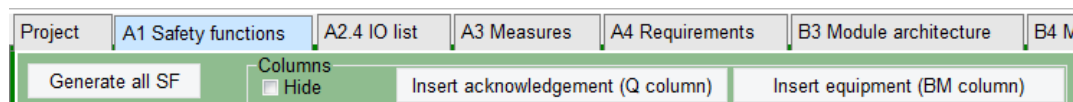

Figure 27: Insert Q and BM columns via button
In the "A1 Safety functions" tab, it is necessary to be able to add separate columns for acknowledgement devices (Q) and operating equipment (BM). The Table 13 lists the commands in the INSERT COLUMN context menu that are available for this purpose. However, it is also possible to simply insert the Q and B columns using the "Insert Q column" and "Insert E column" buttons in the tab control (see Figure 27). When inserting Q and EL columns, the two header cells are prefilled with the texts "[Name]" and "[BMK]" (equipment identification). These texts must then be replaced by your own texts. To do this, activate the EDIT control in the "Columns" box on the tab.